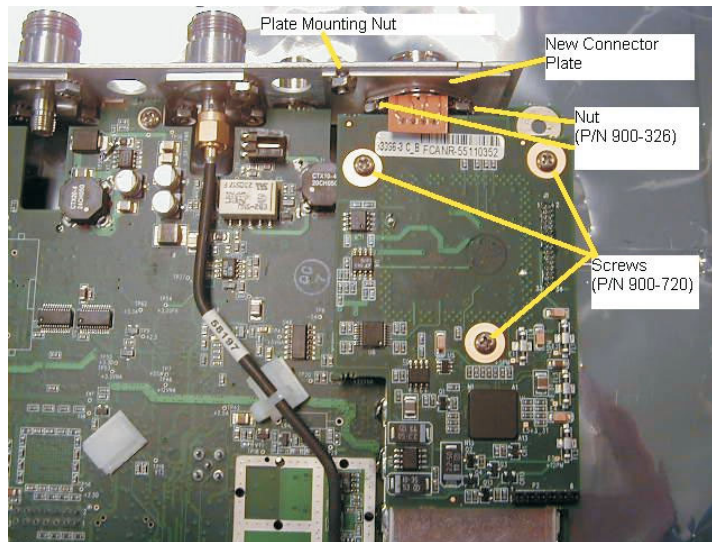

Figure 19. Power Monitor PCB Assembly Replacement
8. Install the Option 5 PCB assembly (p/n 63066-3) to the main board. Carefully align J1 to J6 of the main board when installing. Refer to Figure 19.